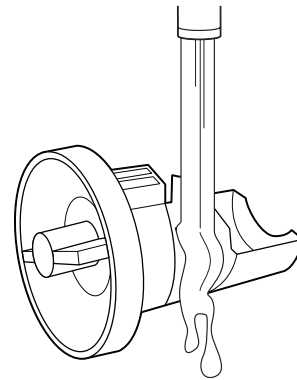

Figure 4
4. Remove large clumps of lint by hand from the filter and place lint in a suitable waste container. Remove remaining residue from the filter by rinsing with water (see Figure 4).